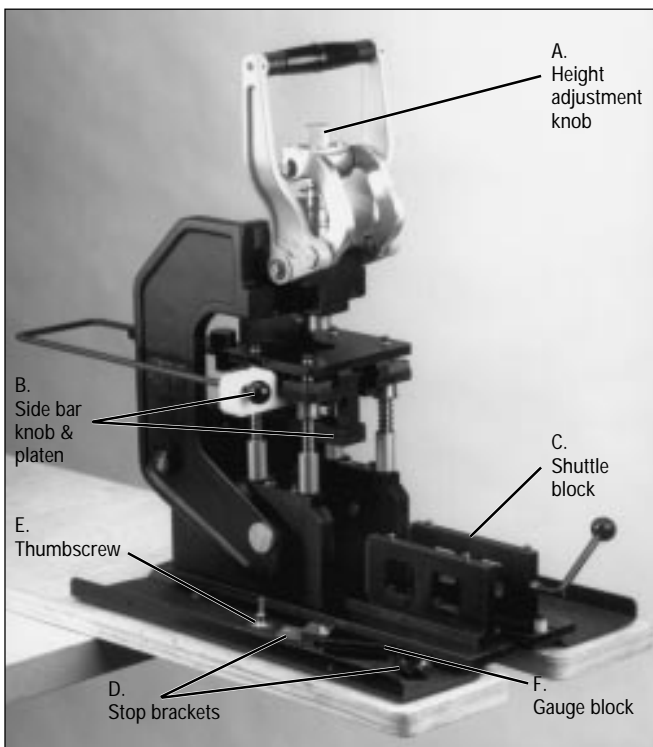

Figure 4. 10960-2000 Hand Press
2. Select the 10960-2000 Hand Press and place it in front of the operator so the handle is toward the operator. It is recommended for assembling connectors that the press be positioned in a manner so cable may hang freely below the press when moving the shuttle block (C of Fig. 4).
4. Slide the platen assembly forward using the side bar which has a round black knob (B of Fig. 4) on the operator's left side.
6. Locate cutting unit stop brackets and thumbscrew (D & E of Fig. 4). Depending on size of assembly choose stop bracket accordingly.
10. Locate the shuttle block (C of Fig. 4) and install fixture unit (Fig. 14) on the guide pins. Push the release buttons on the front of the fixture unit to open the grooved plates.
11. Locate the gauge block (F of Fig. 4). Height adjustment can be accomplished by placing the gauge block, narrow side down, in the fixture unit between the two grooved plates. Close plates manually by squeezing them together.
14. Adjust the silver knob at the top of the press (A of Fig. 4) by hand until the platen lightly contacts the gauge block. Lift press handle up and adjust the silver knob approximately another one-half turn tighter. Pull handle down again. It should lightly lock in place when fully depressed. The platen should apply enough pressure on the gauge block and shuttle to prevent them from moving when trying to slide them out.
1. Place the fixture unit onto either the fixture block (Fig. 12) or the shuttle block on the press (C of Fig. 4) with the slot on the fixture unit toward the operator and the cable clamp stop adjustment knob at the rear of the unit, away from the operator.